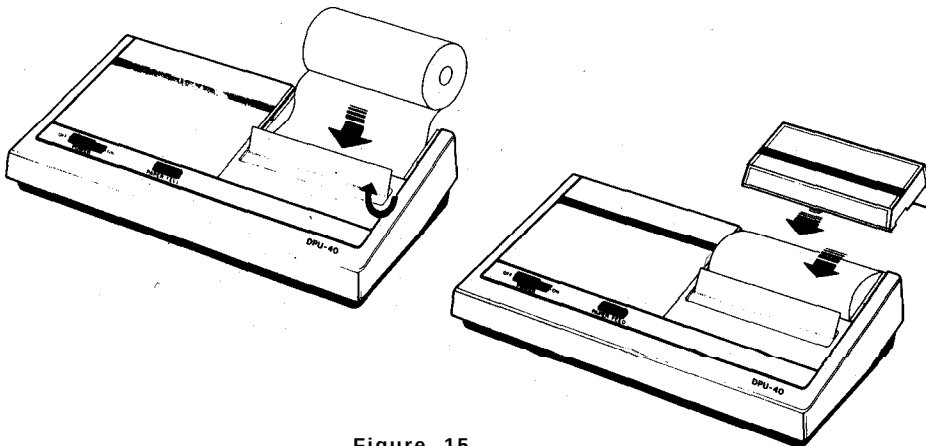

Figure 15
d. While inserting the end of the paper, press the Paper Feed Switch (5) until the paper is fed out. Replace protective paper cover. (see Fig. 15)
- (3) While inserting the end of the heat sensitive roll paper in the direction of the arrow, press and hold the paper feed switch until the paper is fed out. Since the outside of the heat sensitive roll paper is coated with a heat sensitive agent, pay careful attention to the front and back of the paper.